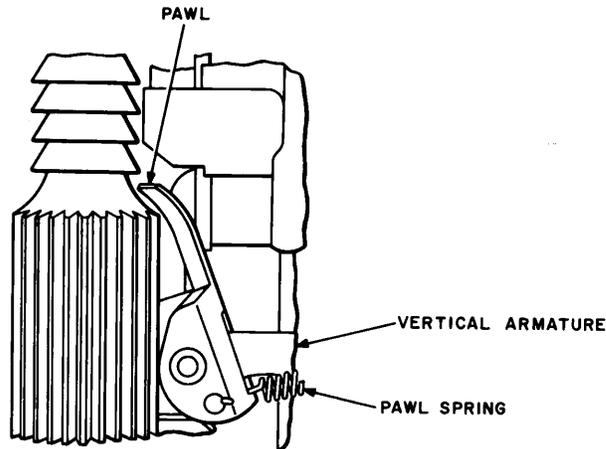

Fig. 18—Method of Attaching Vertical Armature Pawl Spring to Vertical Pawl
(1) To replace the vertical armature pawl spring, remove the vertical armature assembly as described in paragraph 3.07. Replace the pawl spring on the armature assembly, and remount the armature assembly. On switches where the vertical armature assembly has an arm, proceed as follows.
(2) Remove the double dog as described in paragraph 3.18. Disengage the vertical armature spring from the adjusting screw, and swing it to the right. Unhook the pawl spring from the pin or hook on the armature and also from the pawl using the 6-inch tweezers. Hook the open end of the new spring in the hole at the right of the pawl with the open end of the spring facing outward (toward the right). Place the looped end over the pin or hook on the armature. (See Fig. 18.) The tension of the spring after it has been placed in this position should be sufficient to hold the pawl in its extreme forward position. Remount the double dog as described in paragraph 3.18.